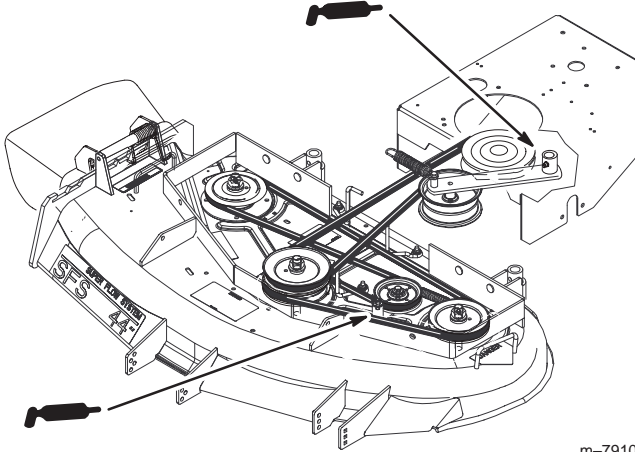

Figure 37
1. Grease the idler pulley pivots (Fig. 37).